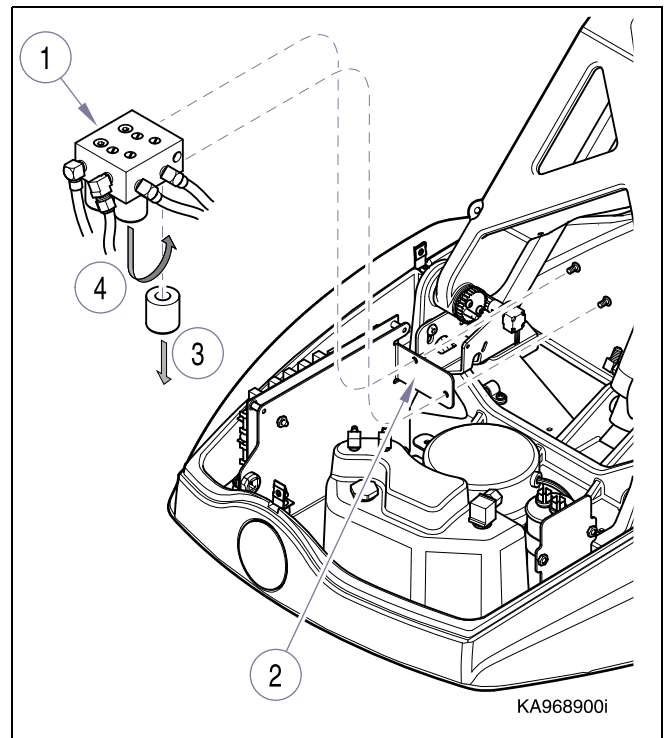

Figure 4-15. Hydraulic Solenoid Valve Assembly.
- a.) Remove solenoid valve assembly (1, Fig. 4-15) from mounting bracket (2), two screws.
- b.) Remove malfunctioning solenoid coil (3) and substitute known good coil (4).